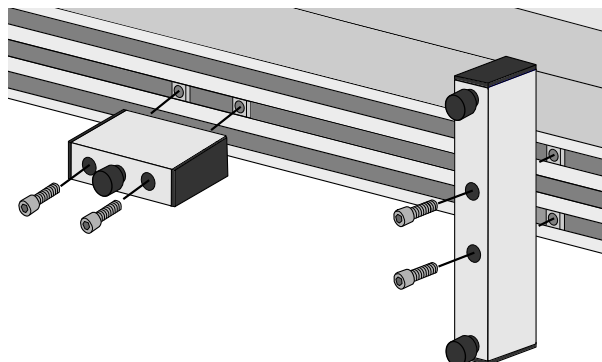

Figure 1: Align the feet with the Air Track and insert the hexagonal screws.
4. Align the holes in the large foot with the nuts in the outermost grooves, as shown in Figure 1. Insert the screw and hex key up through one of the holes in the large foot.
8. Align the small foot with the nuts in the central groove, then repeat Steps 3 through 6 with the small foot, securing it in place with the two remaining hexagonal screws. (See Figure 1.)